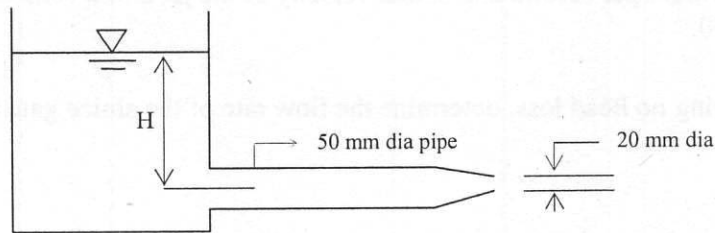

Figure 7
5.(a) A nozzle at the end of a pipe (Figure 7) discharges oil ($S = 0.8$) from a tank to atmosphere. Estimate the discharge from the nozzle when the head H in the tank is 4.0 m. The loss in the pipe can be taken as $20V_1^2/2g$, where $V_1 =$ velocity in the pipe. The loss of energy in the nozzle can be assumed to be $0.11V_2^2/2g$, where $V_2 =$ velocity in the nozzle. Also determine the pressure at the base of the nozzle. (13)